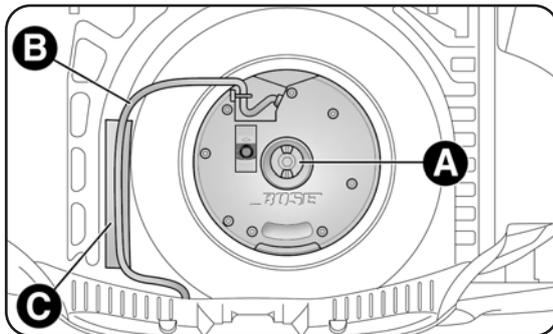

fig. 8
- undo locking device A-fig. 8 and lift up the Subwoofer. Then remove connection cable B from velcro attachment C;
- rest cable B-fig. 8 on velcro attachment C to avoid pinching it. Then tighten locking device A-fig. 8. Lower the luggage compartment mat.
- using the spanner provided, fully tighten the bolts in the sequence shown in fig. 8;